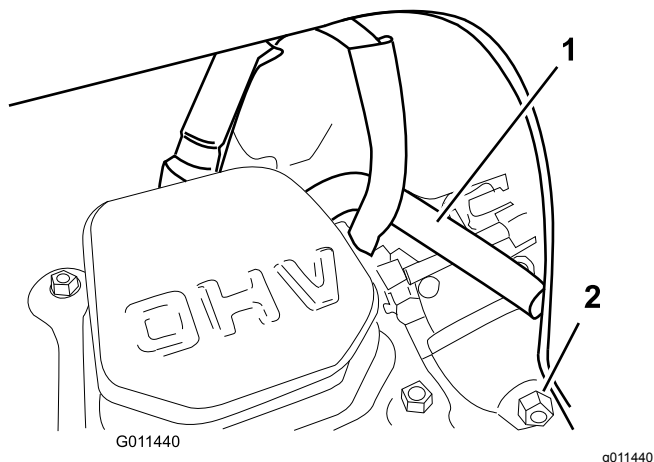

**Figure 26**
11. Set the gap on the plug to 0.030 inch (0.76 mm) as shown in Figure 26.